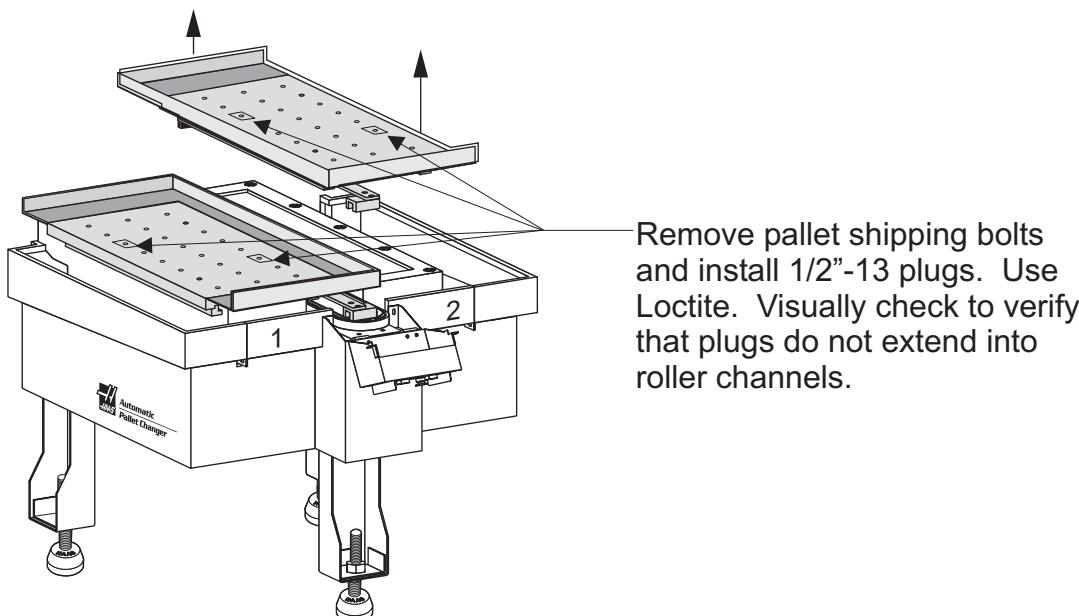

Figure 2.1 Removal of Shipping Bolts
1. Remove the APC from its shipping crate. Remove all tie-downs and strapping materials. Remove the pallet shipping bolts and install the socket set screw plugs with Loctite (see Figure 2.1). Lift off the pallets and set them aside. Remove the door air cylinder and the cable bundle from their storage positions in the APC pan.